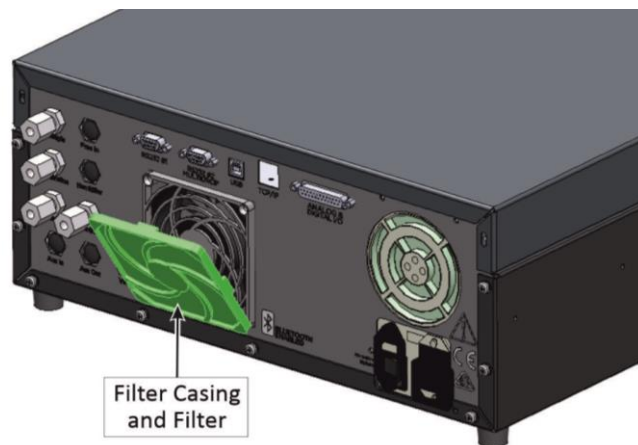

Figure 133 – Remove Filter Casing and Filter
1. Refer to Figure 133. Remove outer filter casing and filter.